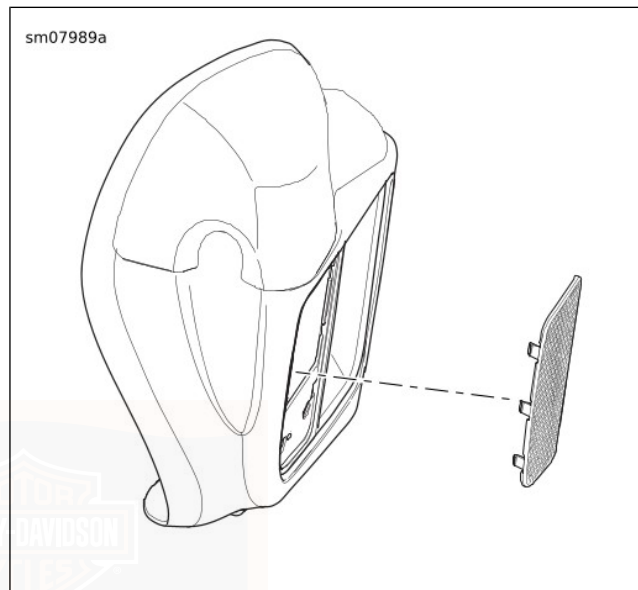

Figure 72. Lower Fairing Grille Panel
1. See Figure 72. Remove outer grille from lower fairing.